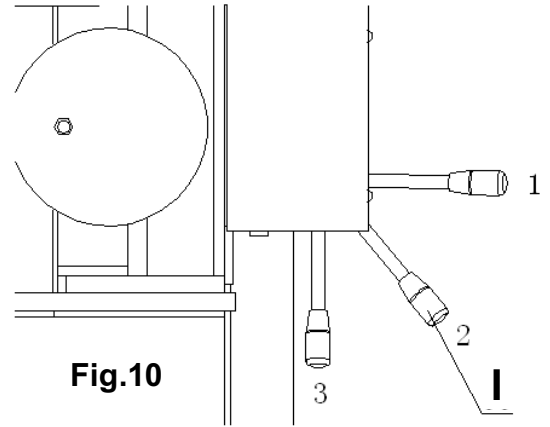

Fig.10
16.1.1.2 Turn the selector valve lever(I) to position 3. (Fig.10)
16.2.1.2 Turn the selector valve lever(I) to position 1. (Fig.10)
16.3 To cease movement of the ram piston, stop pumping the pump handle tube (J) or release the air foot valve (P54), the piston rod will stop immediately. Then turn the selector valve lever(I) to position 2. (Fig.10)